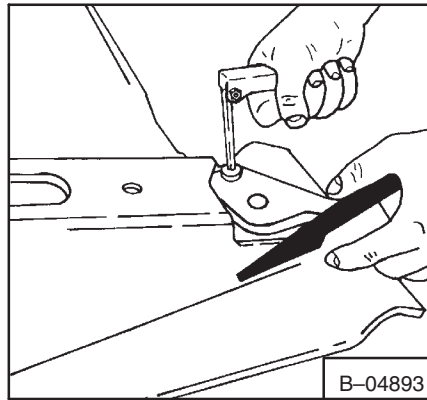

**Fig. 5-28** Installing Wedge Assembly
5. Install the wedge assembly into the Bob-Tach (Fig. 5-28).